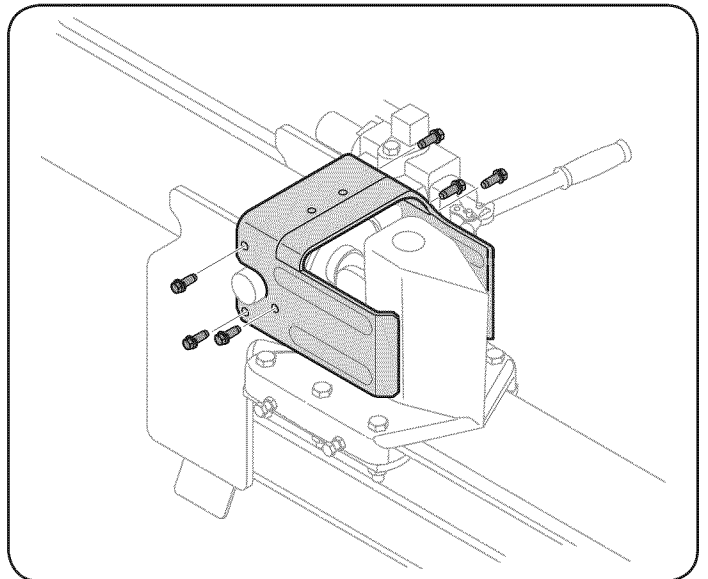

Figure 6
15. Lift and slide the cylinder up to the top of beam and into the weld brackets. See Figure 6.